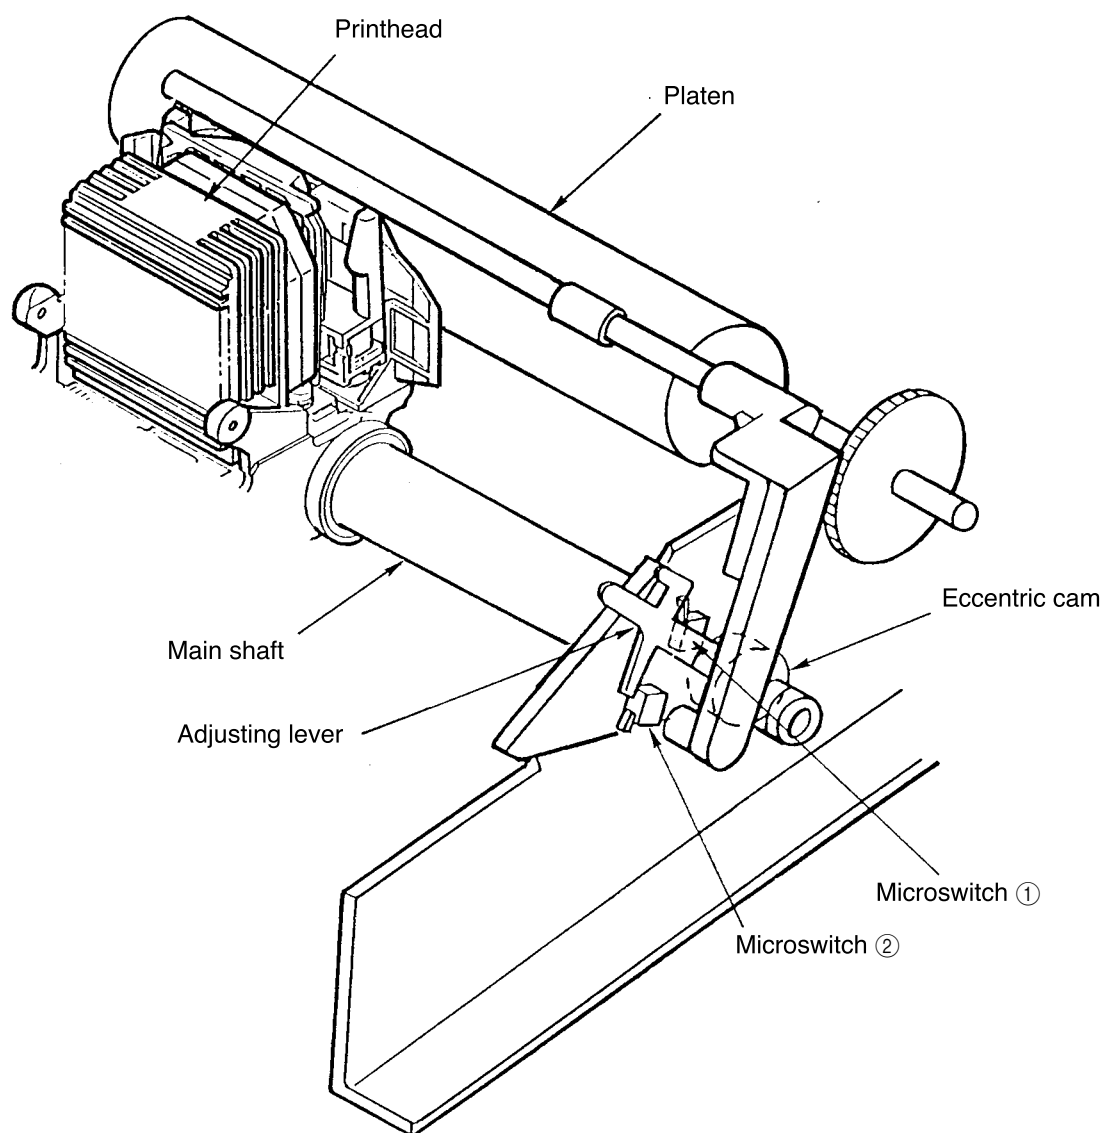

Figure 2.5 Head gap adjusting mechanism
2.2.6 Head gap adjusting mechanism and operation (See Figure 2.5)